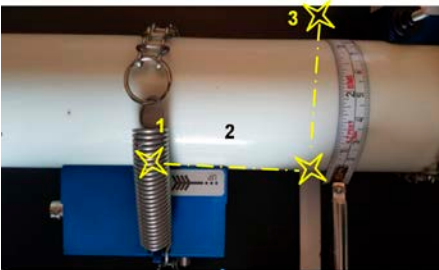

Figure 19: Mark the position of the second transducer at half circumferential distance
6. Mount the second sensor to the centre of the sensor front (not the sensor) at mark 2 (see Figure 19 & Figure 20). The sensors are now exactly opposite.